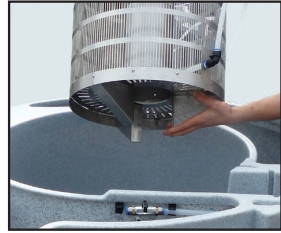
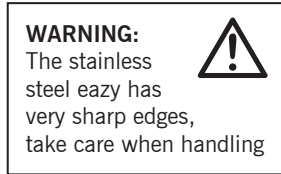

Fig. 1
Fig. 2
12. Take the new EAZY supplied in this kit and slide over the cone of the centre chamber (Fig.1). Push firmly into place (this can be a tight fit). The EAZY will be in position when it hits the lip on the centre cone (Fig.2).